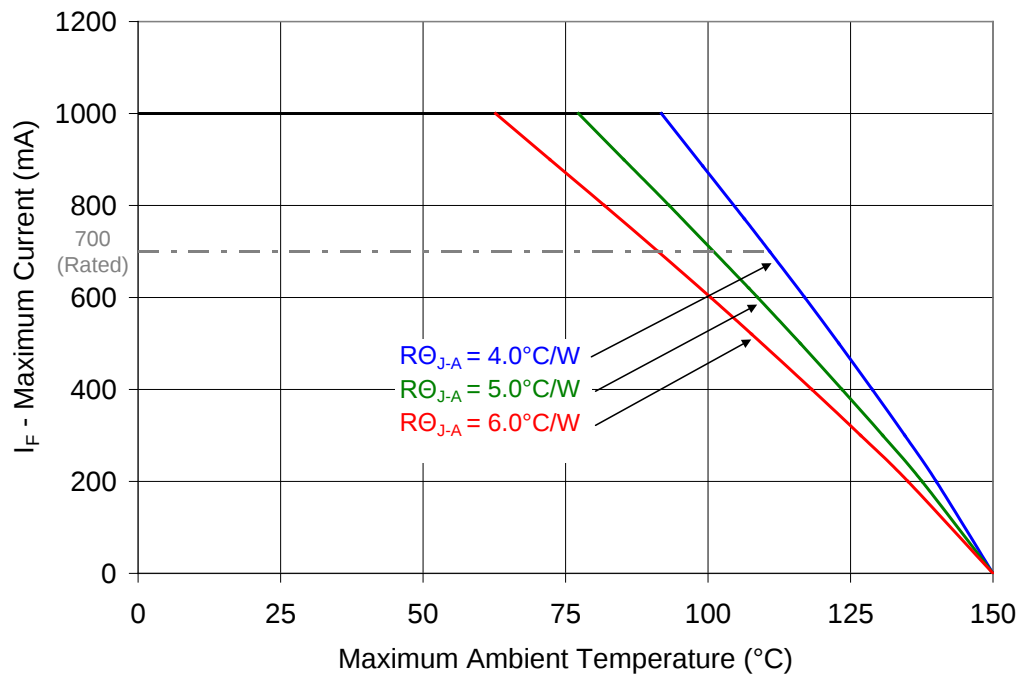

Figure 10: Maximum forward current vs. ambient temperature based on $T_{j(\text{MAX})} = 150^{\circ}\text{C}$.
- Maximum DC forward current (per die) is determined by the overall thermal resistance and ambient temperature. Follow the curves in Figure 10 for current de-rating.
Notes for Figure 10: